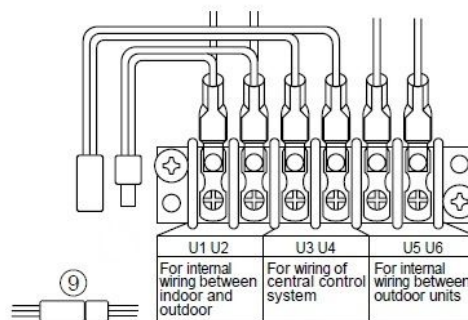

Fig 3
3) Central / BMS connections, 1.5mm two core screened cable connected to terminals U3 & U4 at each LEAD outdoor unit. (Fig 3)
U1, U2 & U3, U4 is Disconnected, (Factory default DISCONNECTED) (Fig 3)